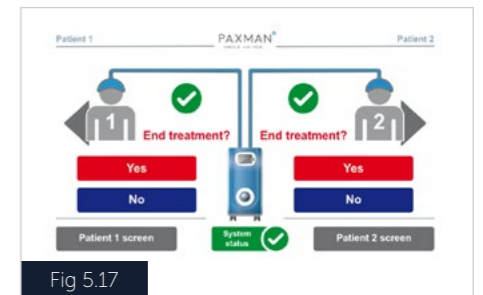

Fig 5.17
- When the timer has completed the screen will ask for confirmation of the end of treatment (Fig 5.17). Press **YES**.
- Then press **YES** as a final confirmation to end the treatment (Fig 5.17).